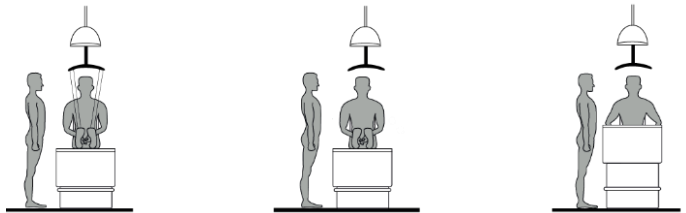

Fig 4
4. Allow/assist the bather to transfer onto the platform (a bed type transfer for an ambulant bather)(fig 4).